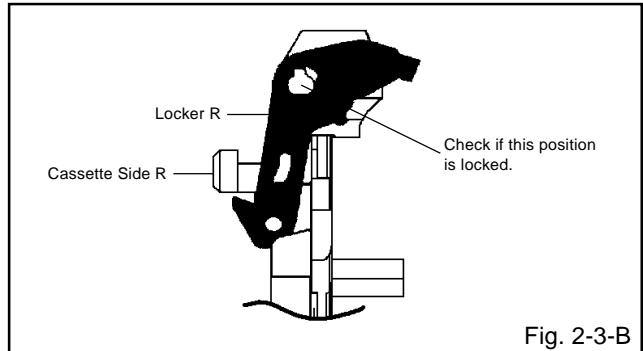

Fig. 2-3-B
### 2-3: CASSETTE SIDE L/R (Refer to Fig. 2-3-A)
1. In case of the Locker R installation, check if the one position of Fig.2-3-B are correctly locked.